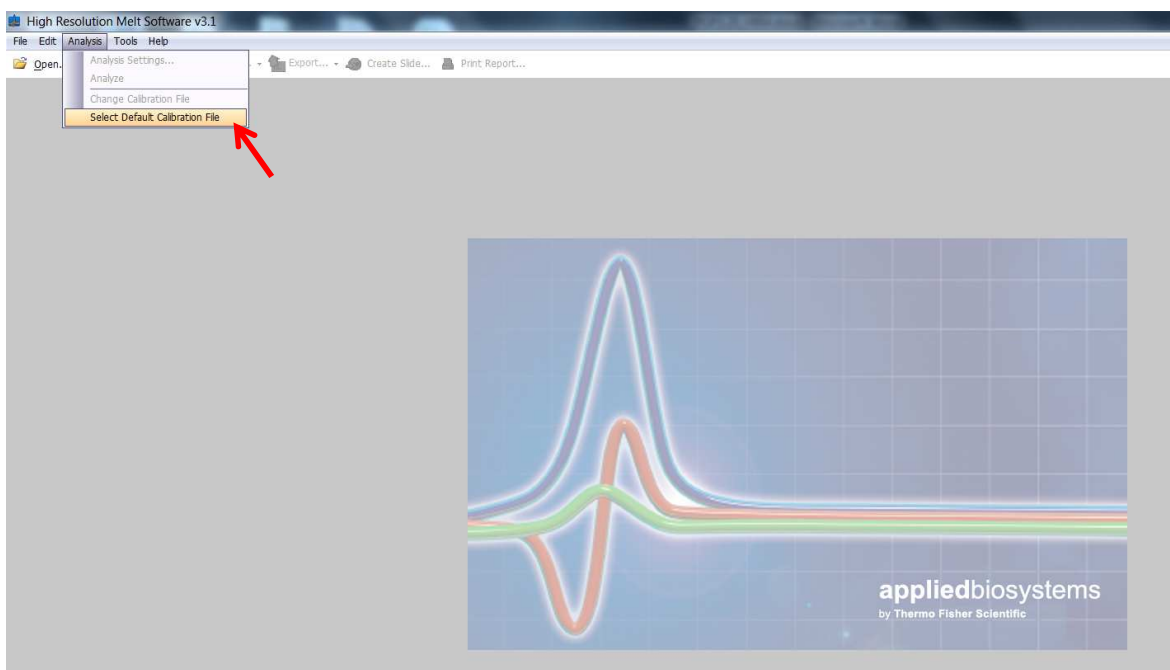

Fig. 1a
1. Abra o HRM Software v3.1 e clique em *Analysis > Select Default Calibration File* (Fig. 1a)